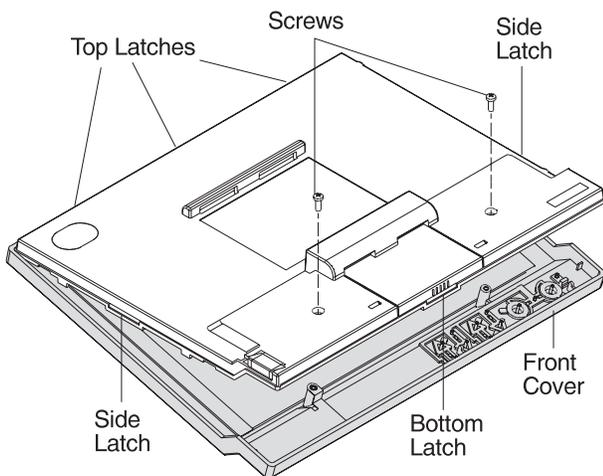

Figure 3-3. Removing the Front Cover
- 1 Remove the 2 screws (1). See Figure 3-3.
- 2 Open the front cover by gently prying and flexing the cover outward at the 6 latch locations shown in Figure 3-3. It is best to release at the bottom edge first. Then release the sides, leaving the top until last.